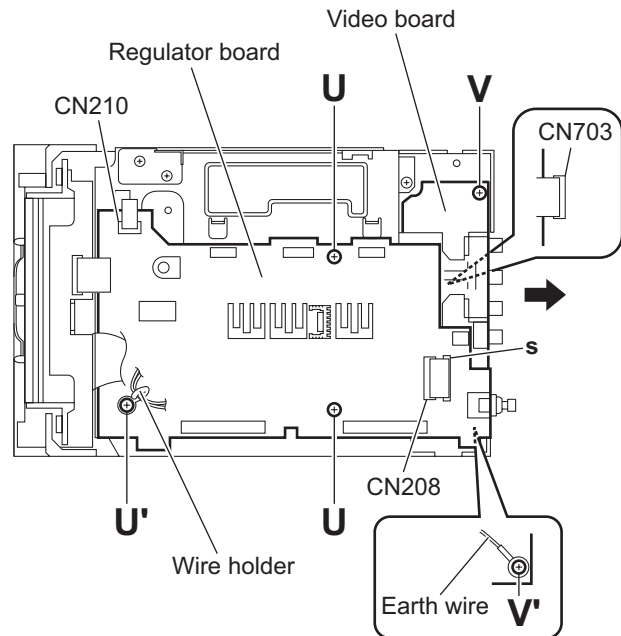

Fig.24
3.1.10 Removing the regulator board (See Fig.24)
3.1.11 Removing the video board (See Fig.24)